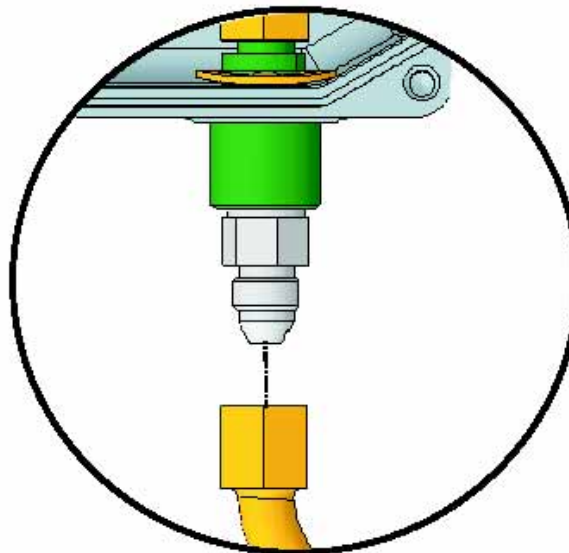

Figure 4-78. Fitting on Outside of XV Control System
7. After ensuring there is no leakage, loosen the swivel fitting located at the bottom right side of the XV Control System (see Figure 4-78). Allow the pressure to vent slowly. When the pressure is completely vented, disconnect the fitting and remove the cover.